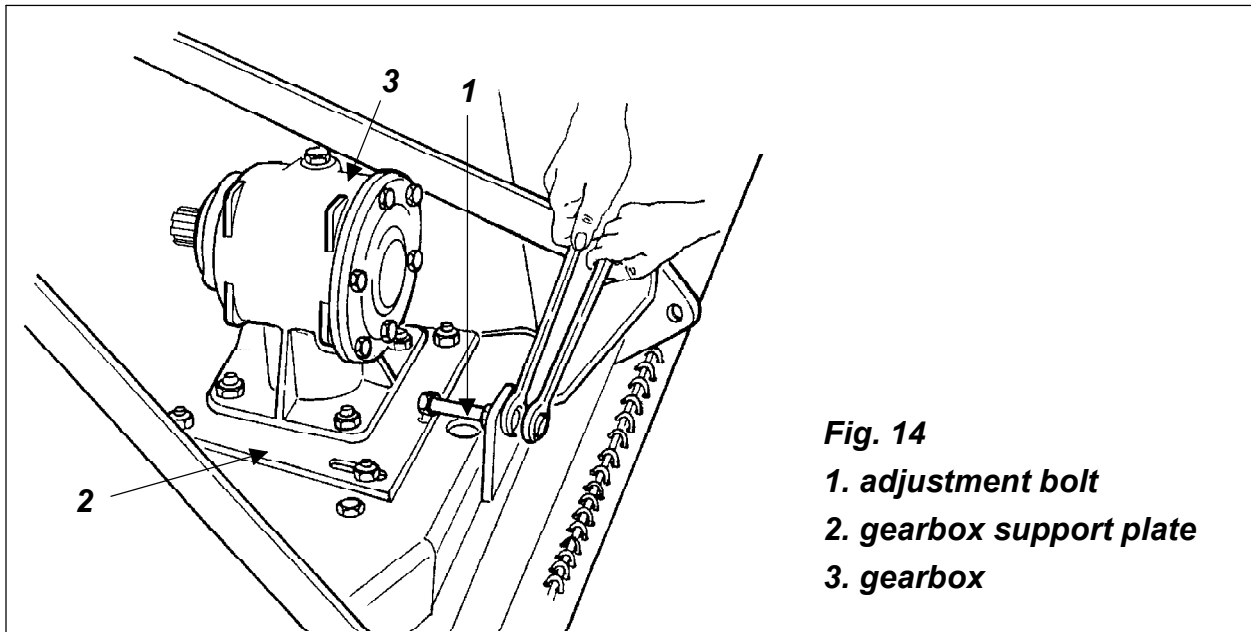

Fig. 14
To adjust the tension do the following (**see fig. 14**):
4. Turn the adjustment bolt clockwise, pushing the gearbox support plate forward until all tension is released (**see fig. 14**).
2. Loosen the nuts holding the gearbox support plate (**see fig. 14**).
3. Loosen the nut and turn the bolt in order to push the gearbox forward and release tension on the belts (**see fig. 14**).
7. Unbolt the nuts holding the gearbox support plate to the central plate (**see fig. 14**). Remove gearbox and gearbox support plate.